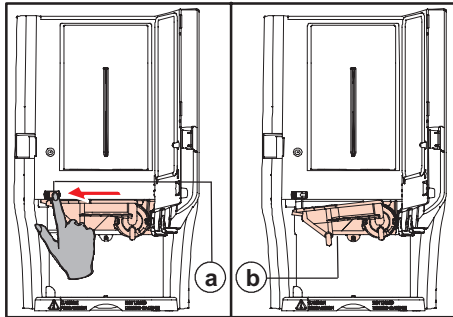

Fig. 50 Releasing trough
14. Remove the trough: release the trough by moving the red slide (fig. 50 a) to the left. The trough (fig. 50 b) comes free at the left.